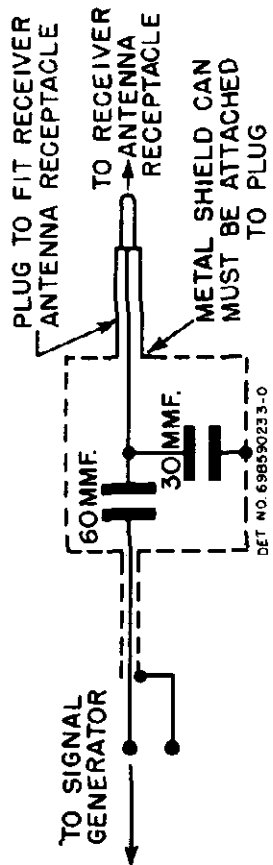

FIGURE 3. DUMMY ANTENNA
4. A dummy antenna for RF and tuner alignment. (Construct dummy antenna as shown in Figure 3.)